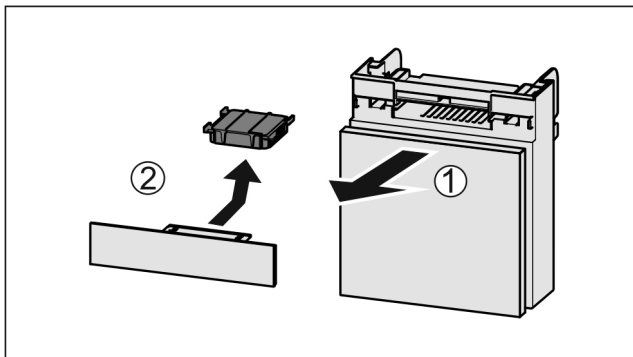

Fig. 126
- ▶ Pull out the compartment Fig. 126 (1).
- ▶ Remove the carbon filter Fig. 126 (2).